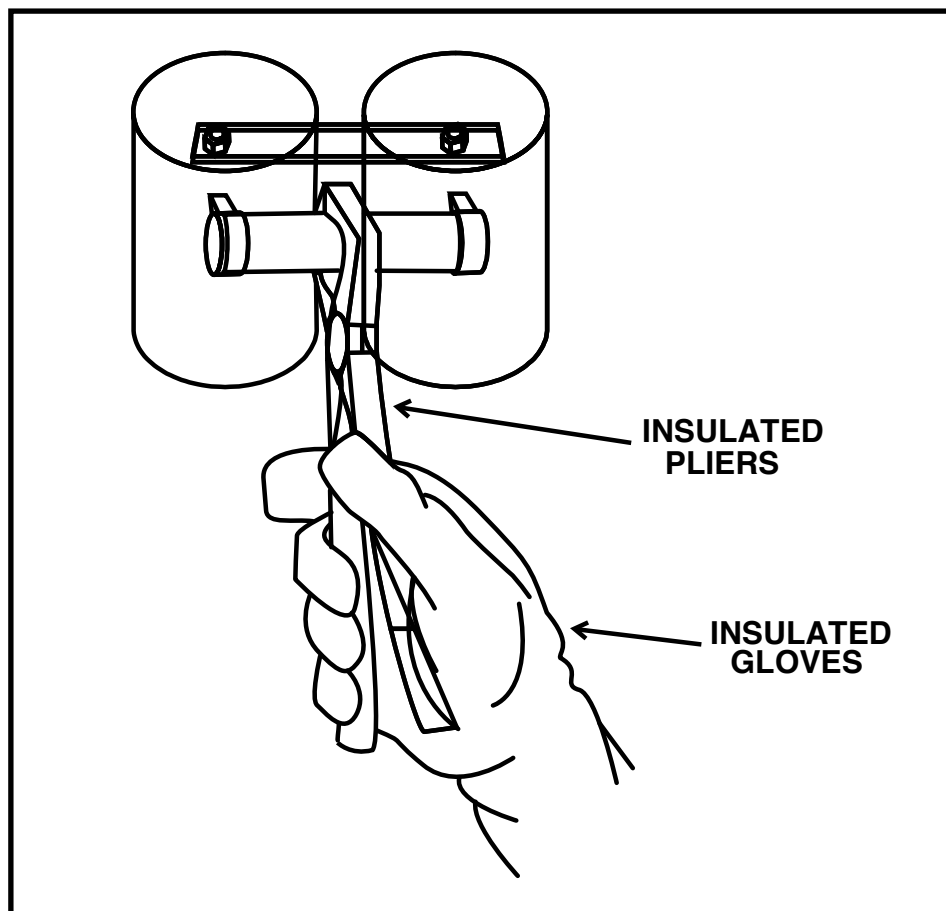

FIGURE F.19-Capacitor Discharge Procedure
NOTE: See Figure F.19.
3. Locate the two capacitors shown in Figure F.19.